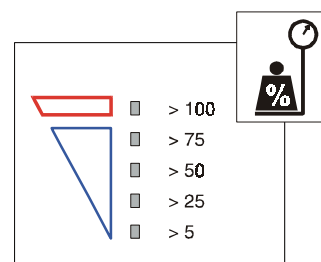

fig. 5
3.2.2 Load indication (fig. 5)